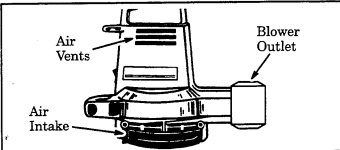

Figure 13
1. **Keep air intake clean and air vents free of debris** to avoid overheating the motor. Figure 13. Prevent foreign objects from entering fan area.